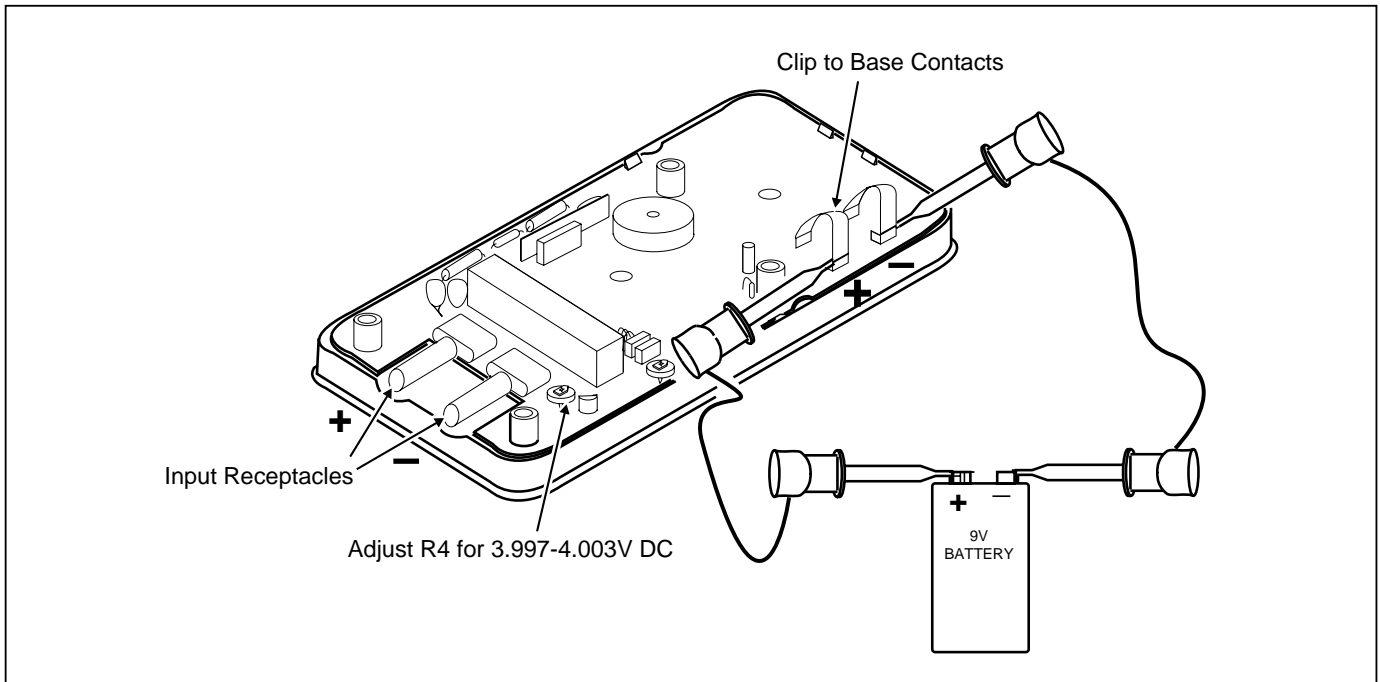

Figure 4. Calibration Adjustment for DC Voltage
*To avoid stretching or bending the battery contacts, connect leads to the base of the contacts as shown in Figure 4.*
3. Observing correct polarity, connect a 9 V battery to the battery contacts using easy hook jumpers or alligator clip leads (see Figure 4).
The Meter display should read between 3.997-4.003 V. If it does not, adjust R4 as described in step 4 (see Figure 4).
4. Adjust R4 (see Figure 4) so that the Meter display reads between 3.997 and 4.003 V.